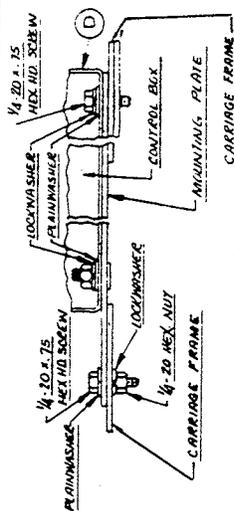

Fig. 4
- D. Install the control box (D) to the upper right front corner of the carriage using the hardware supplied. For LAF-3, -4, -5, install control box per Fig. 5. The LAF control box must be electrically isolated from the carriage frame. For MA-3 & MA-4, install control box mounting plate to the bottom of the control box and then mount the assembly to the carriage per Fig. 4.